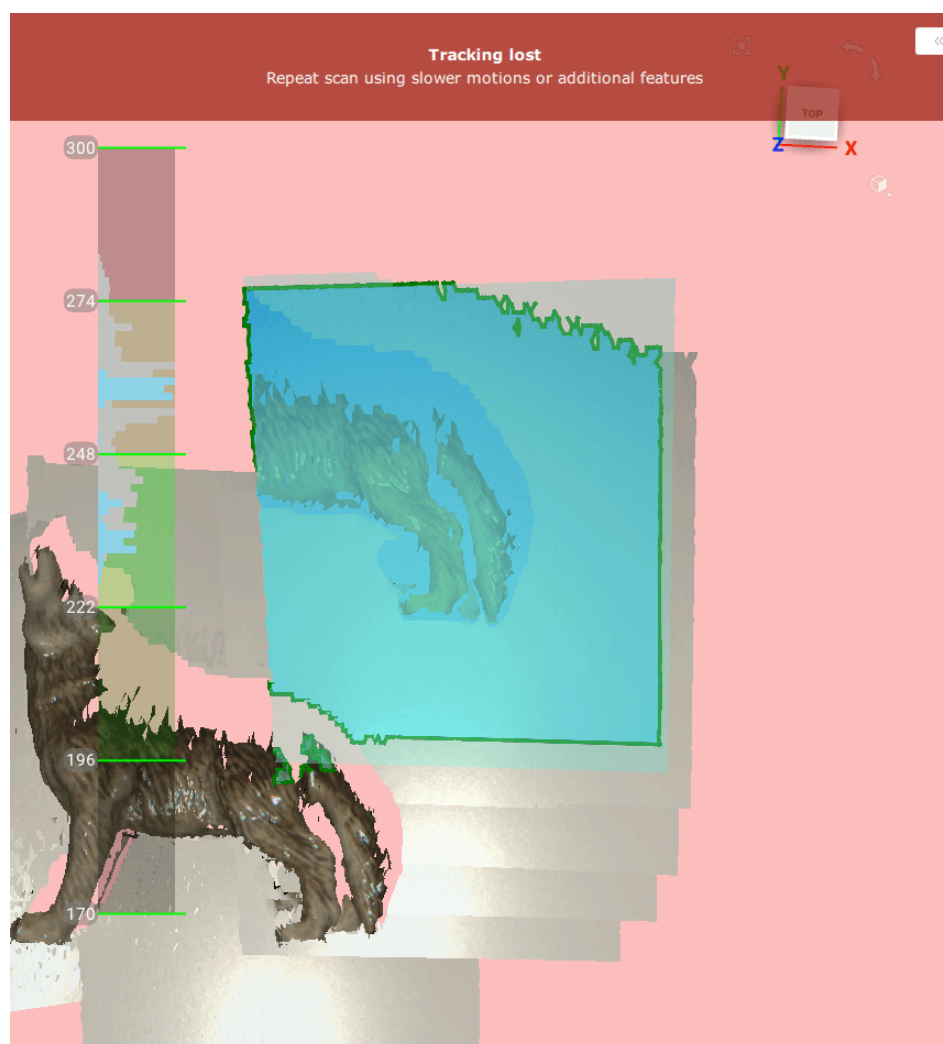

Figure 53: Alert message: tracking lost.
- Artec Studio switches almost instantly from displaying *Tracking lost* mode (see Figure 53) to *Searching for position*, which appears on a green background.